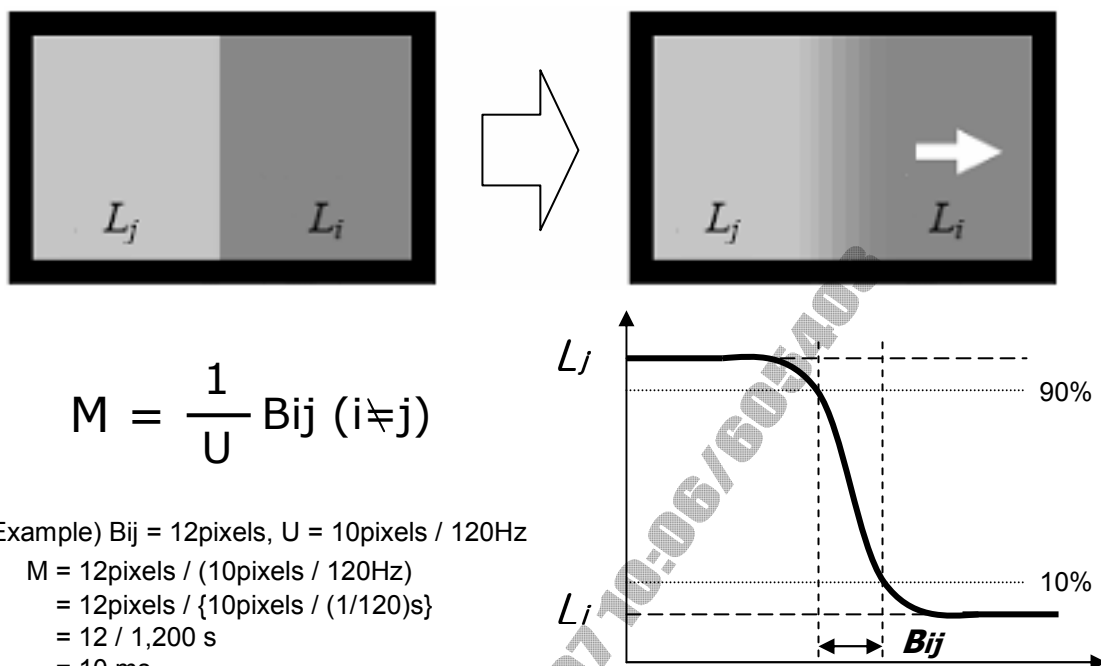

FIG. 4 MPRT
5. MPRT is defined as the 10% to 90% blur-edge width  $Bij(\text{pixels})$  and scroll speed  $U(\text{pixels/frame})$  at the moving picture. For more information, see FIG 4